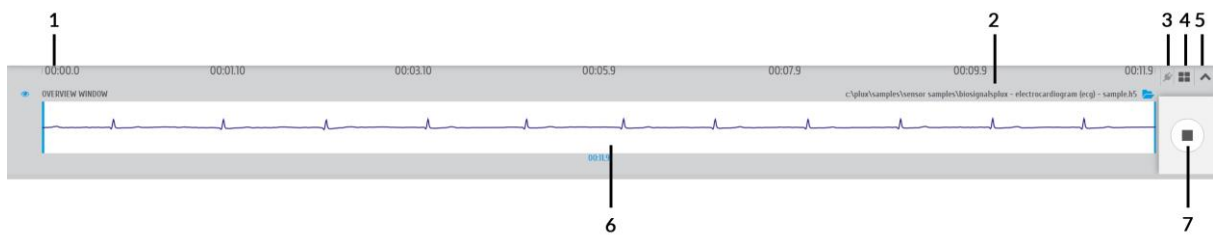

Figure 78: Control bar.
- Time axis (x-axis; 1 in Figure 78)
- File information and access to open file dialog (2 in Figure 78)
- Access *OpenSignals* add-ons (3 in Figure 78)
- Multi-channel visualization modes (4 in Figure 78)
- Unhide hidden channels (5 in Figure 78)
- Overview window (x-axis adjustments; 6 in Figure 78)